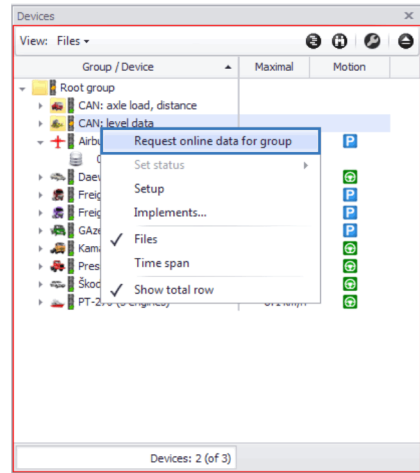

Fig. 57. Request device group online data.
- The “Request online data for group” command, if the vehicle group is selected (**Fig. 57**).